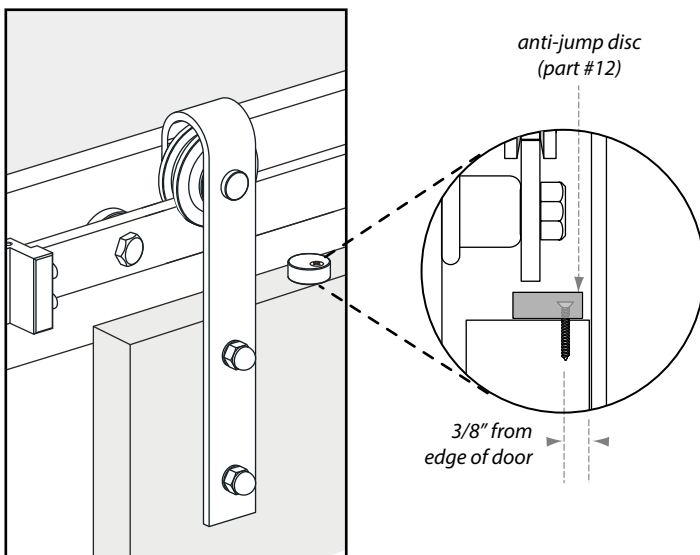

Figure 10
7. Install wall guide (part #13) on the wall next to the TV (figure 10). Depending on depth of your TV, spacer blocks (same thickness as header board) may be required. Loosen wing nut to adjust wall guide to appropriate depth so that doors hang parallel to the wall.